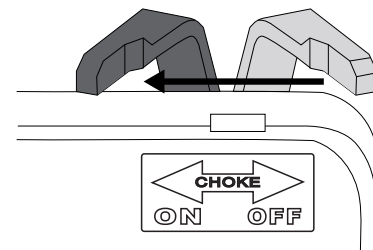

Figure 10 - Choke - ON
6. If the engine is cold, move the choke lever to the **ON** position (see Figure 10 below). If the engine is warm turn choke **OFF**.